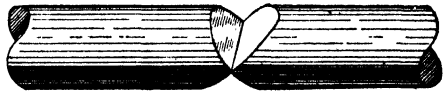

Fig. 71. Preparation of Round Sections for Welding
**Round Sections.** Round or elliptical sections should be prepared by beveling the ends to a wedge as indicated in Fig. 71. They should never be turned down to a point. By preparing the pieces as shown